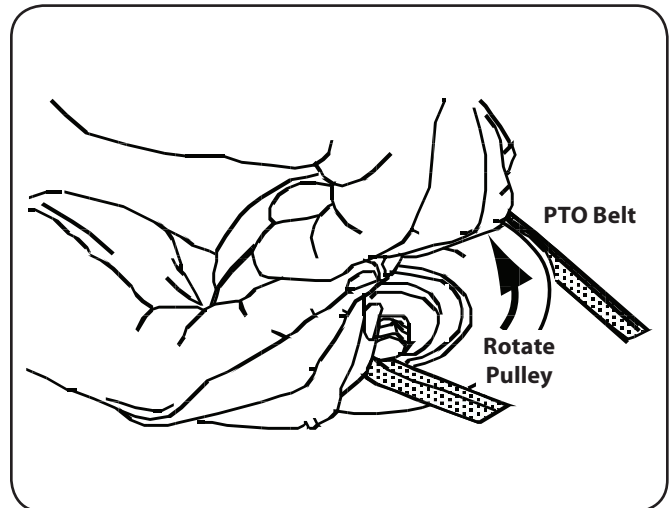

Figure 7-9
8. Pull the right side of the belt and place the narrow V side of the belt into the PTO pulley. See Figure 7-9.
9. While holding the belt and pulley together, rotate the pulley to the left (See Figure 7-9). Continue holding and rotating the pulley and belt until the belt is fully rolled into the PTO pulley.